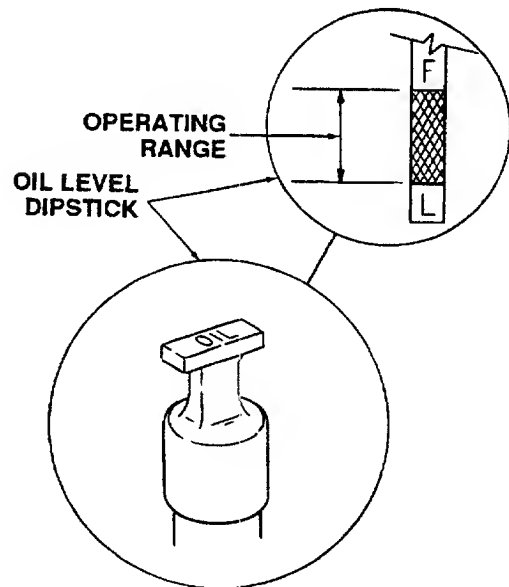

Figure 19
Before each use, the oil level of the engine crankcase should be checked to see that it is filled to correct level. Close monitoring of the oil level during the first 10 hours of operation of the engine is especially important. Before checking the oil level, clean the area around the oil fill tube and oil fill cap/dipstick to prevent debris from entering the crankcase. Always keep the oil level between the "FULL" and the "LOW" marks on the dipstick. (See Figure 19.) When checking the oil level, engine must be cold, the dipstick must be withdrawn and wiped clean, then inserted all the way and withdrawn for a true reading.
3. Remove the oil fill cap/dipstick from oil fill tube and **SLOWLY** pour oil into the oil fill tube. Fill the crankcase until the oil level reaches the "FULL" mark on the dipstick. (Refer to Figure 19.)
3. Remove the oil fill cap/dipstick from oil fill tube and **SLOWLY** pour oil into the oil fill tube. The oil capacity is approximately 4 pints. Fill the crankcase until the oil level reaches the "FULL" mark on the dipstick. (Refer to Figure 19.)